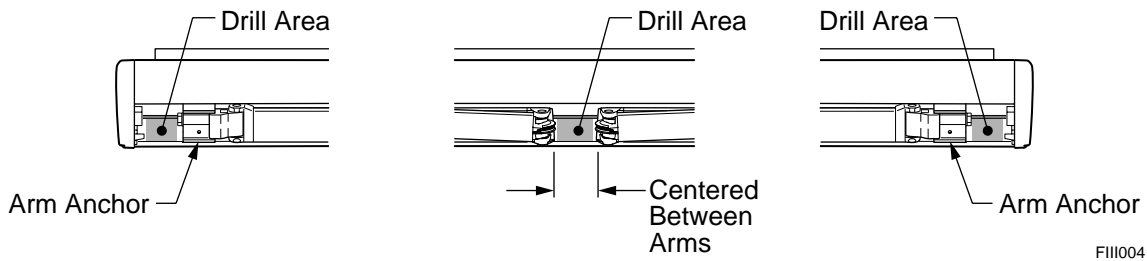

Figure 4. Securing the Awning Case.
12. (Refer to figure 4) Drill three (3) 3/16" holes through the back of the case into the mounting surface and into the structure. Use care to not drill through the inner wall.